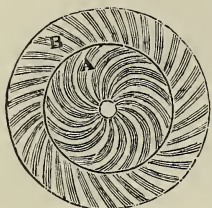

Fig. 3.
standing pattern must have a centre, and the spiral must be worked on the same centre. That done, all is well. Sometimes a double spiral is desirable, and then the pattern in Fig. 3 is adopted. By it the outer part of the pattern (B) will seem to flow in a different direction from the inner (A). Paint the spirals any colours you please, providing that they are bright, and you get the results. Let reverse spirals appear in your fixed pattern, and you improve the effect. Have two revolving rings worked by the same wheel, one over the other, and the whole device will glow with life and brilliancy.